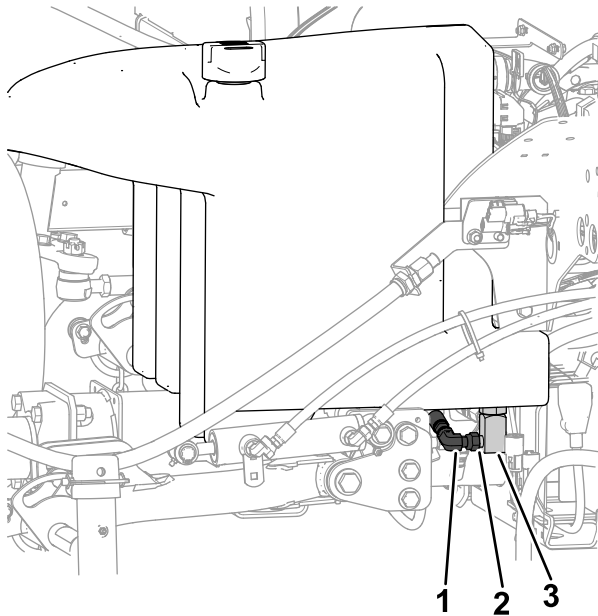

Figure 146
2. Place a large drain pan under the manifold (Figure 146) on the bottom the hydraulic tank; refer to Checking the Hydraulic-Fluid Level \(page 82\).